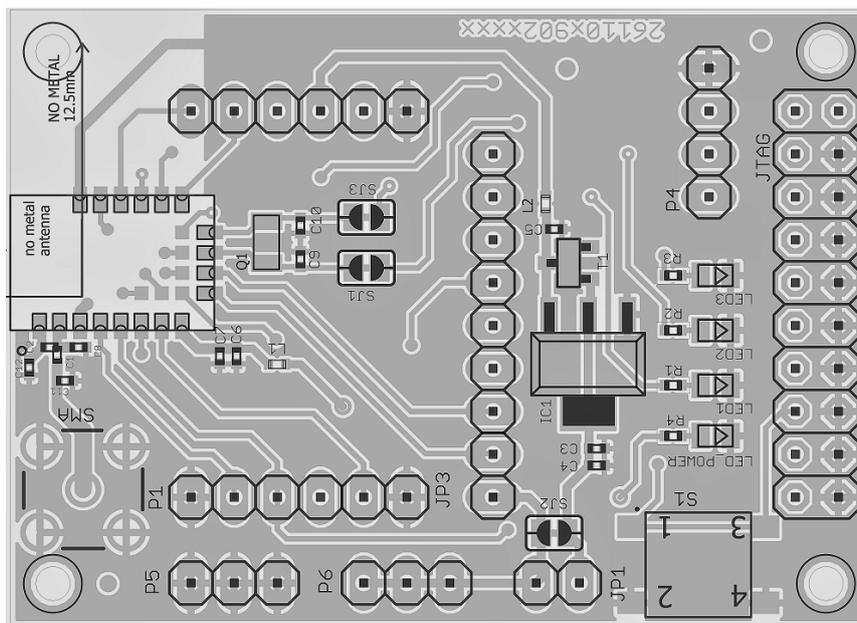

Figure 3: Default jumper placement of the Proteus-III-SPI mini EV-Board.
- the Proteus-III-SPI mini EV-Board with jumpers set as specified in figure 3. Other jumpers not set.